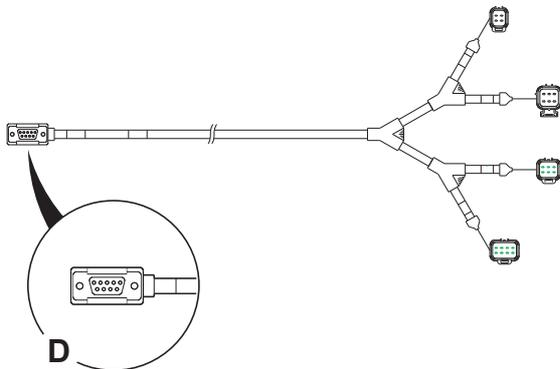

Fig 6. Servicemaster Lead
- 1 Connect the converter lead between the USB port **U** and connector **D** on the standard Servicemaster lead part number 892/01066. ⇒ Fig 6. \(□ 16\).